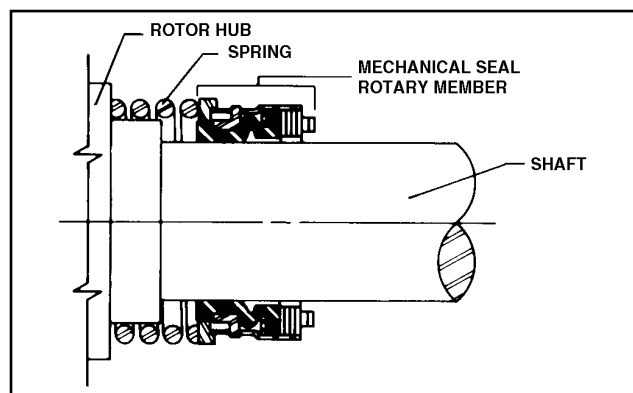

Figure 28
4. Place tapered installation sleeve on shaft. Refer to Figure 28. Sleeve is furnished with GG, AS, AK, and AL replacement mechanical seals. Coat rotor shaft, tapered installation
5. Place seal spring on shaft against rotor hub. Refer to Figure 28.